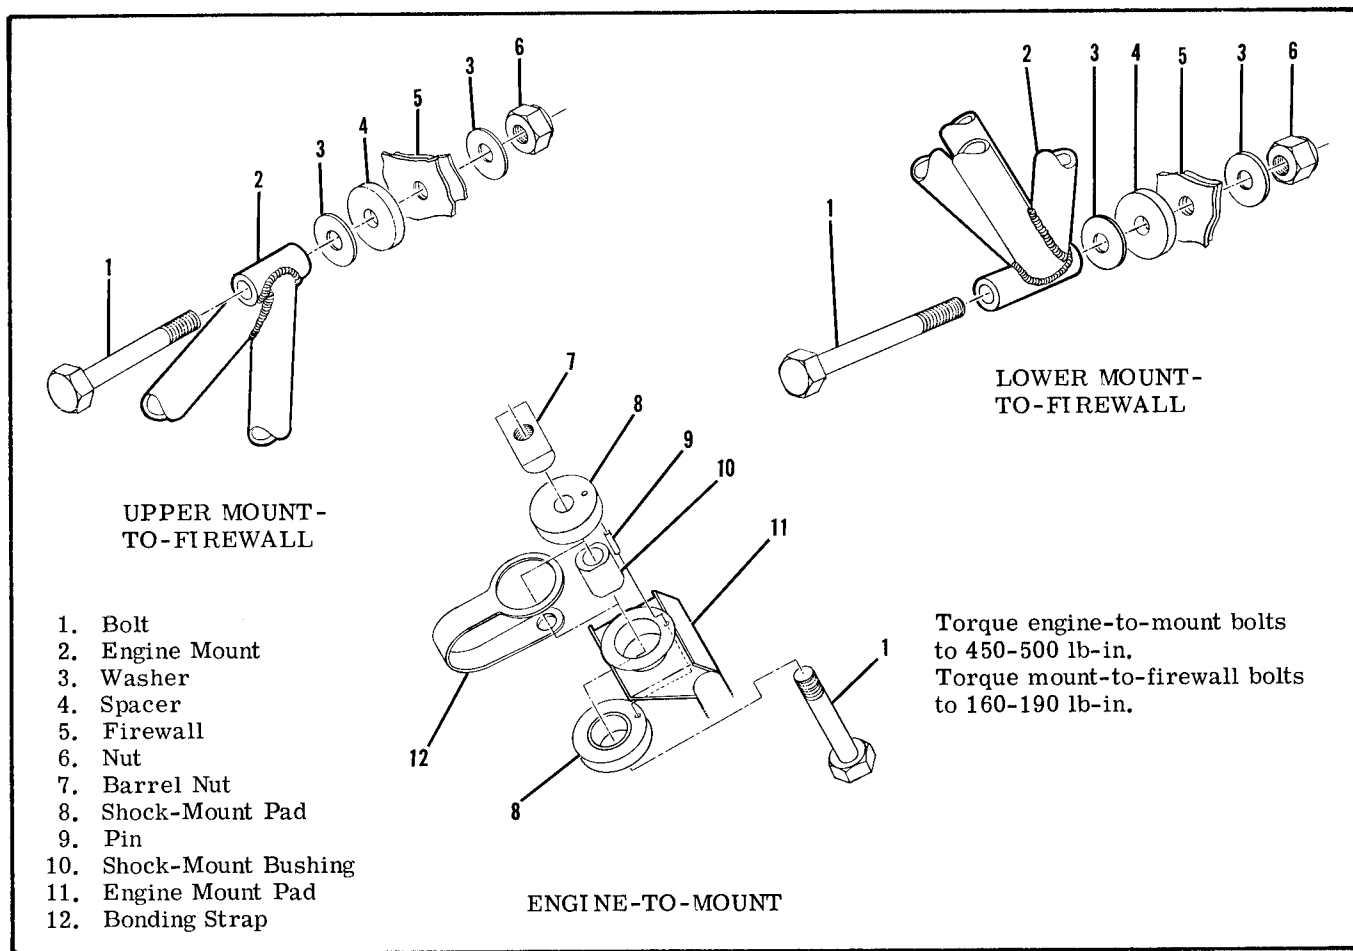

Figure 11-2. Engine Mount Details
b. Install engine shock-mount pads and bonding straps as illustrated in figure 11-2.
**11-28. ENGINE MOUNT.** (Refer to figure 11-2.)
**11-32. ENGINE SHOCK-MOUNT PADS.** (Refer to figure 11-2.) The bonded rubber and metal shock-mounts are designed to reduce transmission of engine vibrations to the airframe. The rubber pads should be wiped clean with a clean dry cloth.